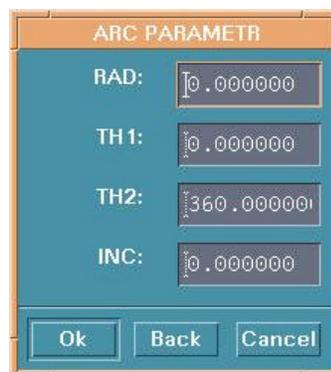

Figure 6.1.3 Arc Parameter
- Enter the values in the ARC PARAMETER dialog window. See Figure 6.1.3.